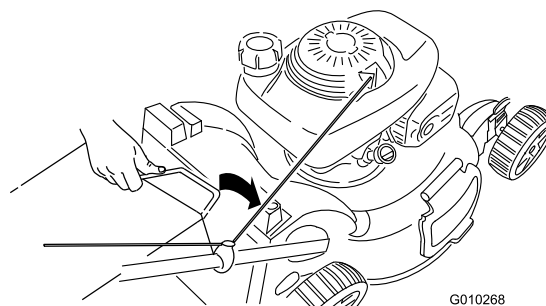

**Figure 29**
2. Route the starter rope around the lower rope guide (Figure 29).